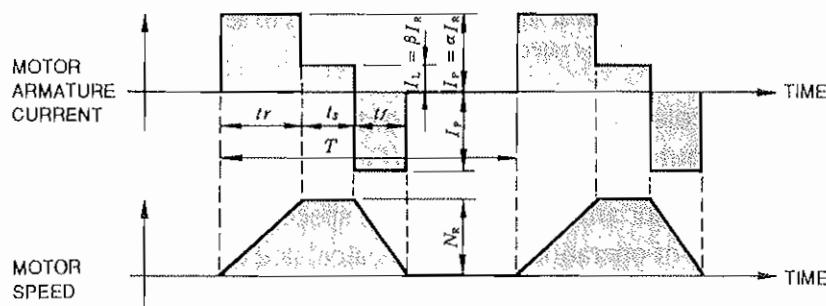

Fig. 4.3 Timing Chart of Motor Armature Current and Speed
- When the motor repeats rated speed operation and being at standstill (Fig. 4.3).